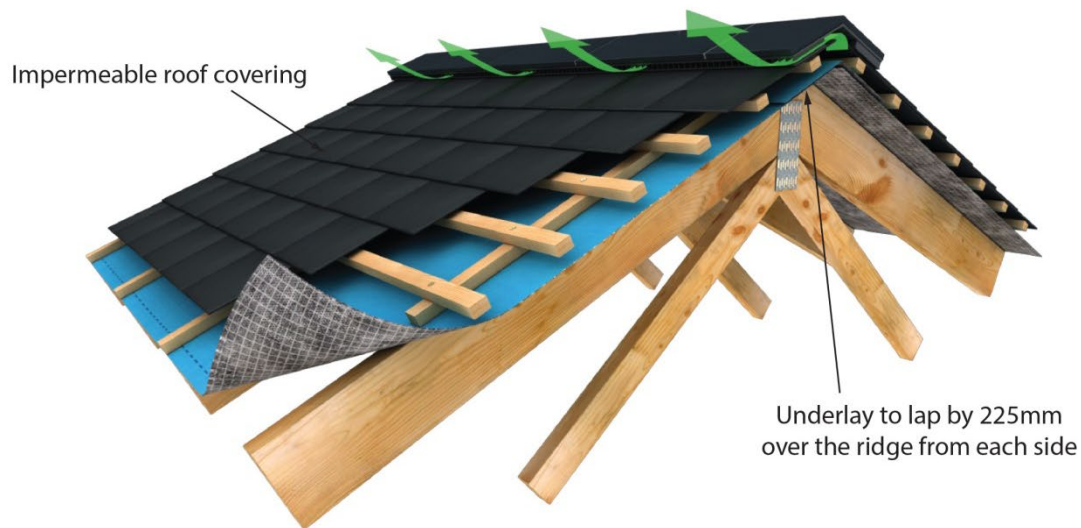
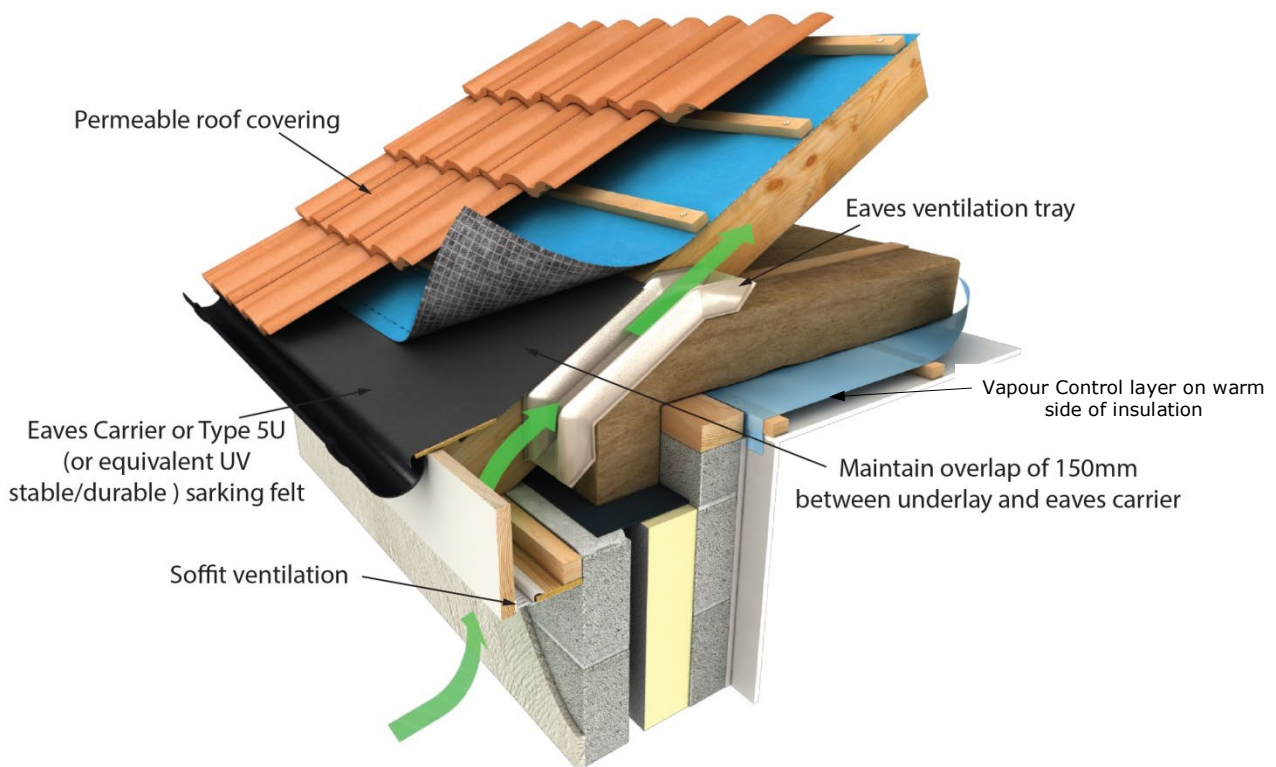

Figure 4 - Cold Roof detail with impermeable roof covering - Ridge Detail
Figure 5 - Cold Roof detail with permeable roof covering - Eaves Details
2.4.2.1 At the eaves, an eaves carrier felt i.e. 500mm wide strip of type 5U felt, to meet specifications of I.S. EN 13707:2013 Flexible sheets for waterproofing – Reinforced bitumen sheets for roof waterproofing – Definitions and characteristics must be used. This eaves carrier felt should be dressed 50mm into the gutter and the Solitex Plus and Solitex Plus Connect Breathable Membrane must overlap the eaves carrier felt as outlined in Table 2. In an open eaves construction, the use of eaves guards is recommended. The provision of a tilting fillet/continuous ply support or proprietary eaves ventilation tray is also required to avoid water being trapped behind the fascia board (see Figure 5).
2.4.2.20 When close fitting man-made slates are to be installed as the roof covering, which constitute an impermeable external covering, counter battens shall be used. In addition, ventilation should be provided above the membrane in the form of ridge tile and eaves ventilation (see Figure 4 and Figure 5). Reference should be made to BS 5250:2016 Section H.5.3. In case of doubt, the advice of the Certificate holder should be sought.
Ideally the vapour control layer should connect with the vapour control layer or airtight layer in the external walls (see Figure 5).